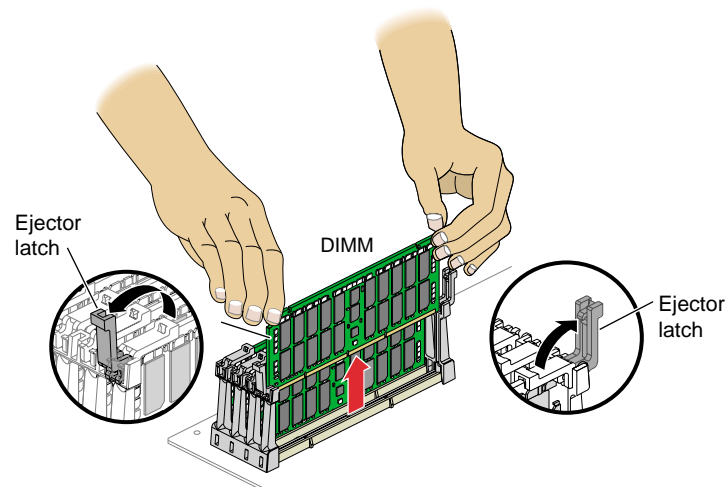

Figure 4-14 Removing a DIMM
6. Remove the DIMM, as follows (refer to Figure 4-14):